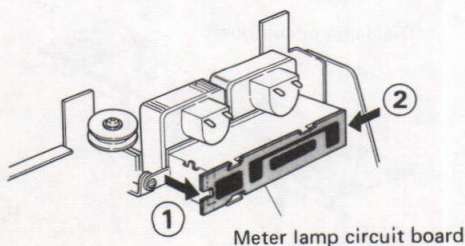

Fig. 17
- 2) To remove the meter lamp circuit board from the reflector, raise the circuit board near the tab in arrow (1) direction and slide in arrow (2) direction.
- (Refer to Fig. 17)